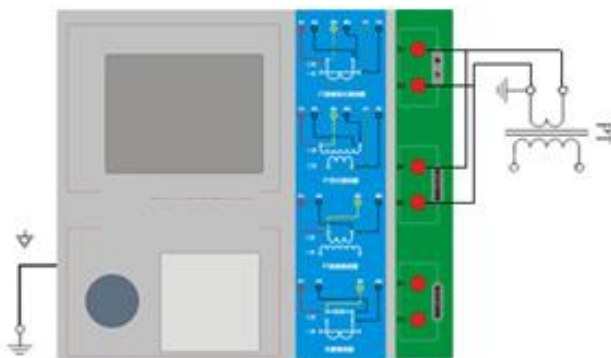
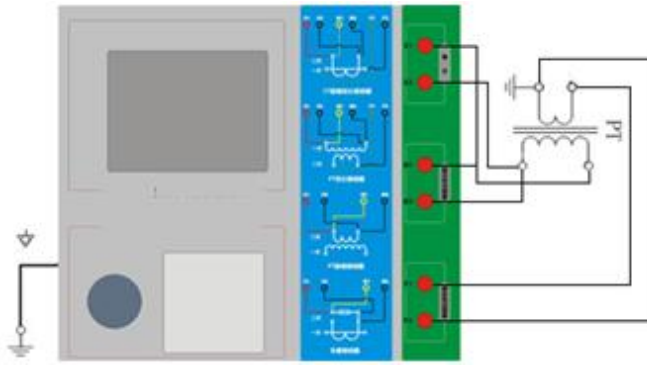

Fig 2.10 PT's DC resistance and excitation
Fig 2.11 PT's ratio
Step 1. According to PT testing program description of list 2.4,refer to figure 2.10 or figure 2.11 for wiring